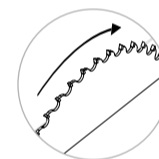

Fig 5c - Rotate blade
- 5.3 Rotate the blade until the mark is as far to the rear as possible. Slide the jig back along the miter slot and re-measure the distance to the mark. Both measurements should be the same [Fig 5c-5e].